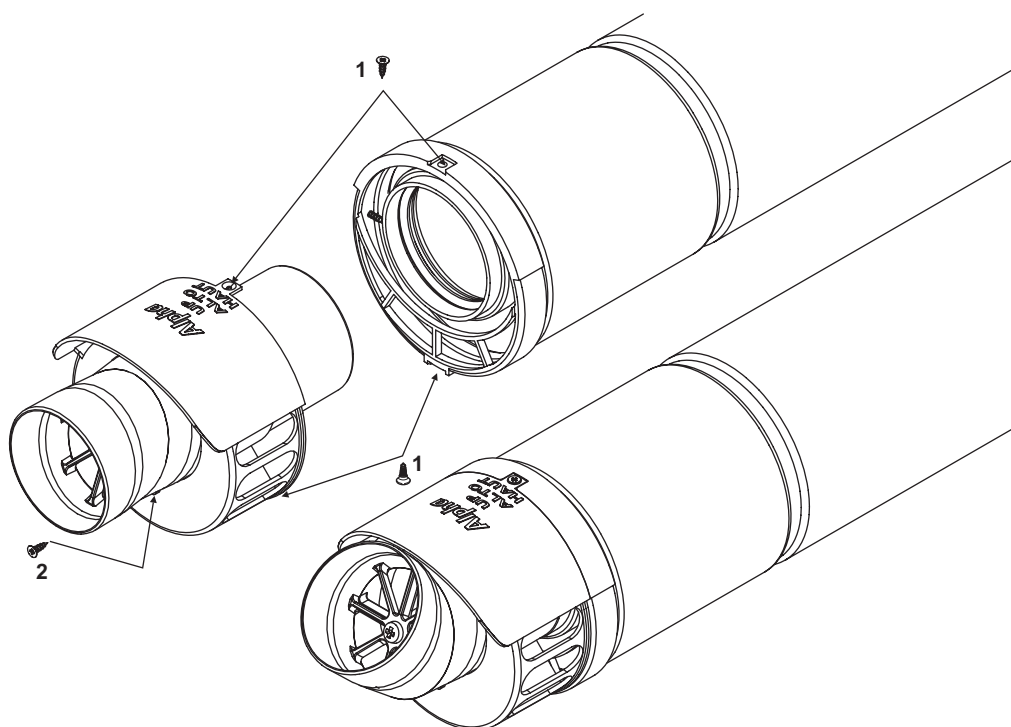

Fig. 5.12
- i. Remove the screws (1 in Fig. 5.12) securing the terminal and remove the terminal by pulling it from the flue assembly. Remove the screw (2 in Fig. 5.12) securing the terminal end section and remove the end section from the terminal.